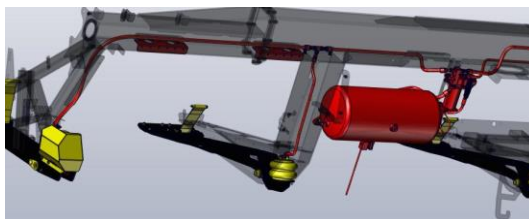

Figure 291
2. Through a series of lines, the air is directed to the air bags on the unit. There is an airbag on each of the cutter bar struts to support the cutter bar assembly. Figure 291